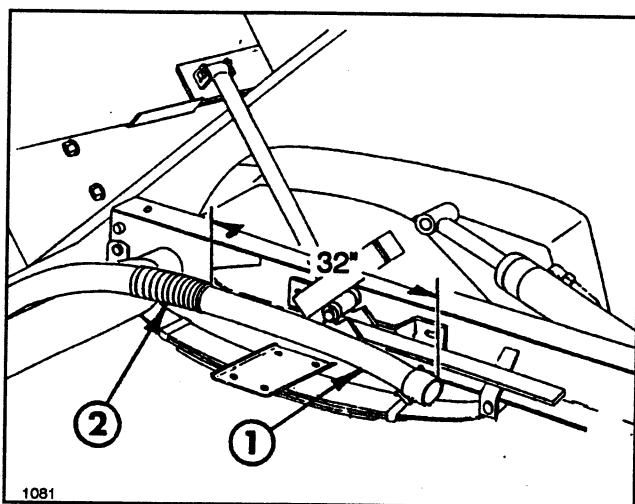

FIG. 17
13. Install the protective hose loom on the 100" pressure hose as shown in FIG. 17. Secure the loom to the hose by tightening a tie strap around each end of the loom so that the loom does not shift front to rear.